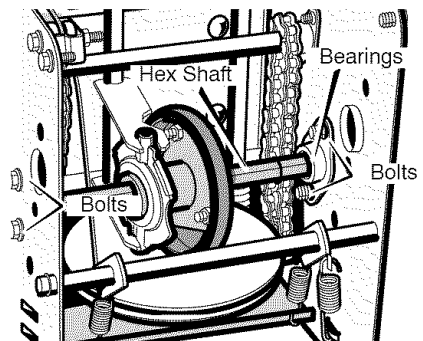

Figure 48
9. Remove the four **bolts** that hold the **bearings** on each side of the **hex shaft** (see Figure 48).